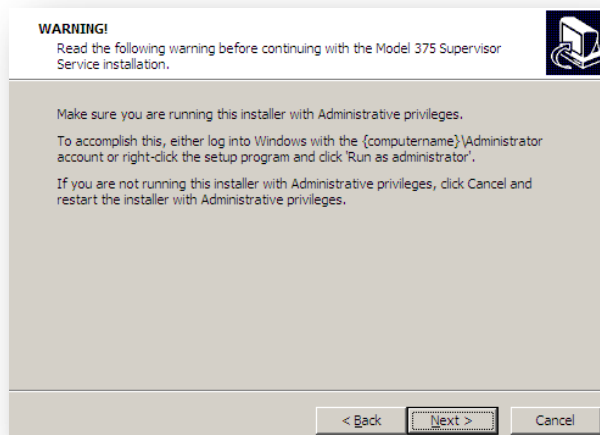

Figure 10 – Model 375 Web Page and Supervisor Service installation warning screen
2. If the installer is running with Administrative privileges, click “Next”. See Figure 10.